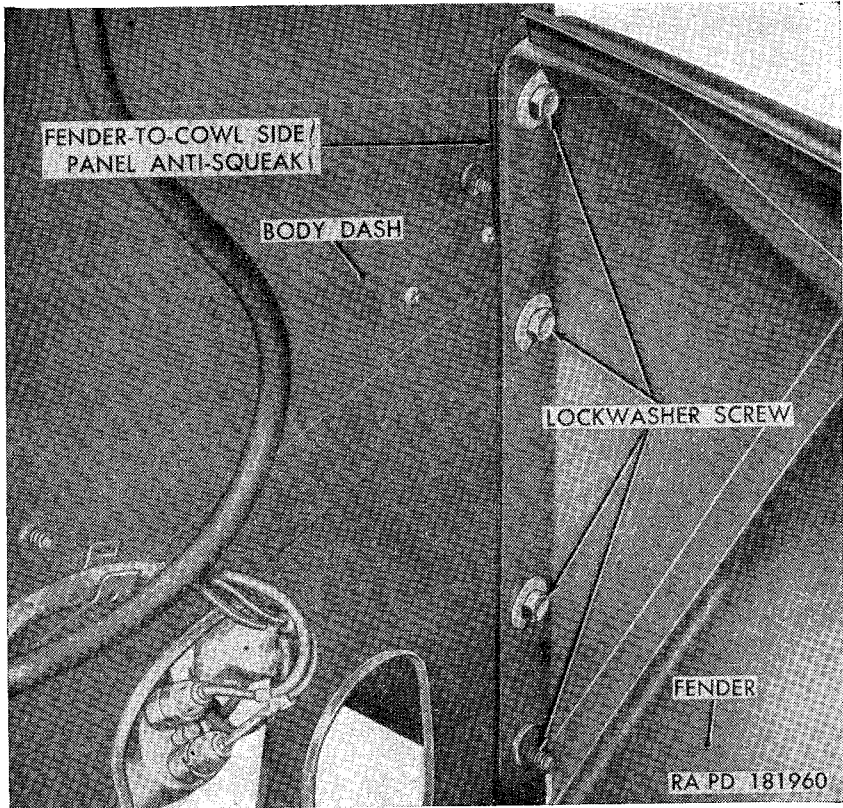

Figure 178. Rear of left front fender secured to body dash.
- (1) Raise hood and lock in raised position (par. 255a).
- (2) Remove blackout driving light assembly (par. 164b).
- (3) Remove horn assembly (par. 184d).
- (4) Free the electrical cables from the four fender clips. Free the fuel line from the fender clip.
- (5) Remove the four lockwasher screws (fig. 178) securing the rear of the left front fender to the front of the body cowl.
- (5) Secure the rear of the fender to the body cowl, from the engine side, with three  $\frac{5}{16} \times \frac{7}{8}$  lockwasher screws (fig. 178). Working beneath the body, install the bottom  $\frac{5}{16} \times \frac{7}{8}$  lockwasher screw through the body cowl into the fender.